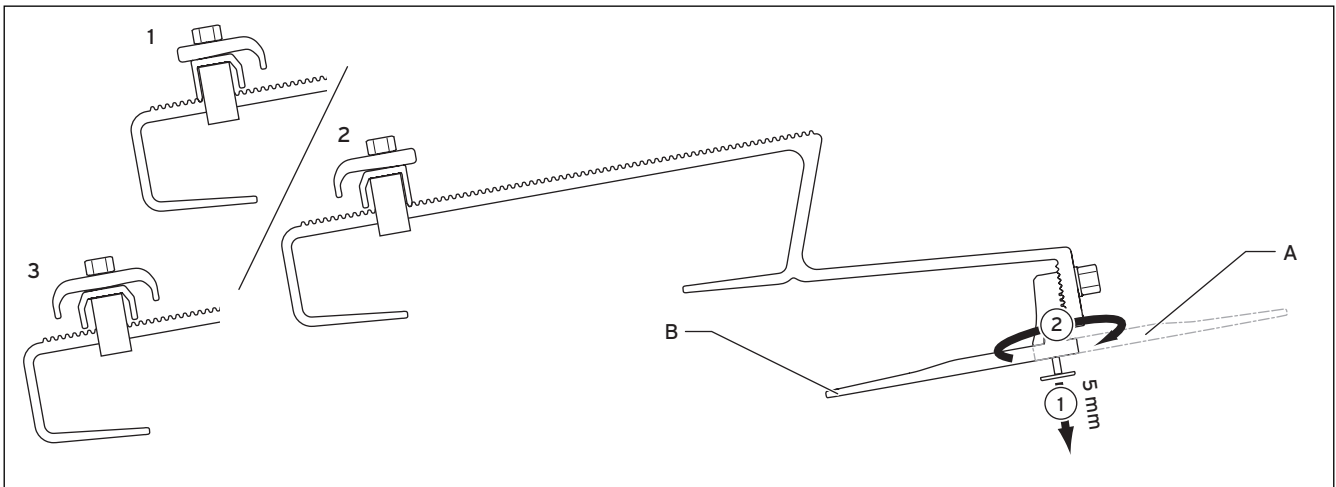

Fig. 6.3 Roof anchor type P
2. Position the roof anchor. Pay attention to the correct position of the upper and lower roof anchor (see Fig. 6.3).
6. Slide the pantiles back to the original position. If necessary, adapt the water gutter on the lower (A) or upper side (B) of the pantile with a hammer, until the pantiles are tight.
3. Hook the roof anchor to the roof batten. Pay attention to the correct position of the upper and lower roof anchor (see Fig. 6.3).
4. Position the central nut so that after inserting the anchor upper part the front contact area is on the roofing. Pay attention to the correct position of the upper and lower roof anchor (see Fig. 6.3).